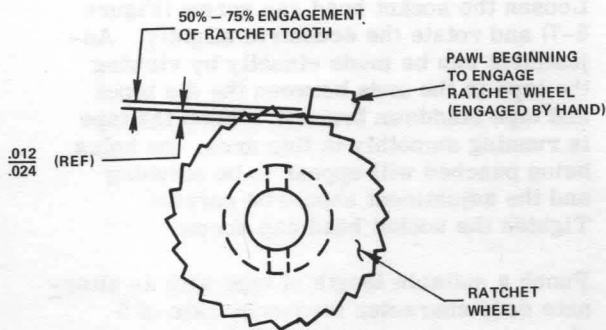
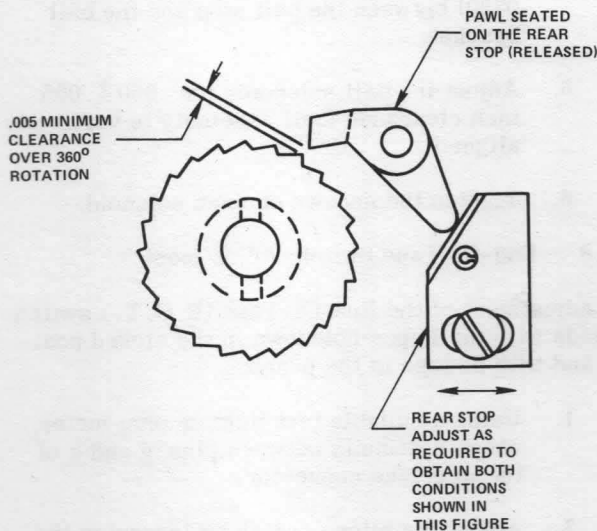

Figure 5-8 Pawl Cam Adjustment
Figure 5-9 Radial Clearance Adjustment
1. Rotate the pawl counterclockwise until it just engages the ratchet wheel. The pawl should engage anywhere from 25% to 50% from the bottom of the ratchet wheel tooth (Figure 5-8).
4. Rotate the ratchet wheel and assure that a minimum clearance of 0.005 inch is obtained between the pawl and all teeth on the ratchet wheel (Figure 5-9). Readjust the pawl cam as necessary to obtain this clearance and repeat steps 1 through 4 until the dimensions referenced in Figures 5-8 and 5-9 are within tolerance.